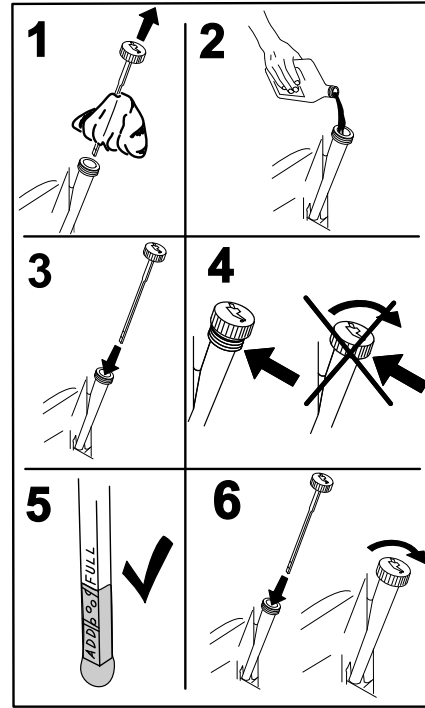

Figure 32
5. Slowly pour approximately 80% of the specified oil into the filler tube and slowly add the additional oil to bring it to the **Full** mark (Figure 32).